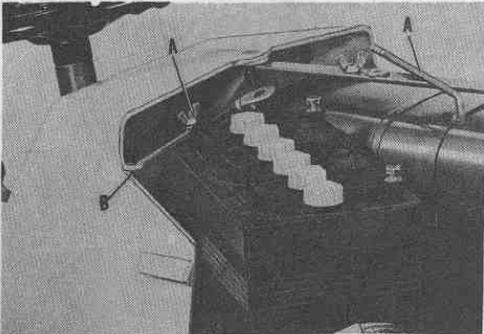

FIG. 2
1. Remove carton from around tractor. If you have electric start tractor, remove battery from crate bottom and prepare for operation as given in step one under Fig. 2. This will require about 2½ to 3 hours of time.
2. Lift cowl and assemble clamp (B) to one of two battery bolts (A). Flat washer and wing nut above clamp. Hook the bolt clamp assembly into rear of battery support and turn clamp to side as shown. Slide battery into position with terminals to center of tractor, as shown in Fig. 2.